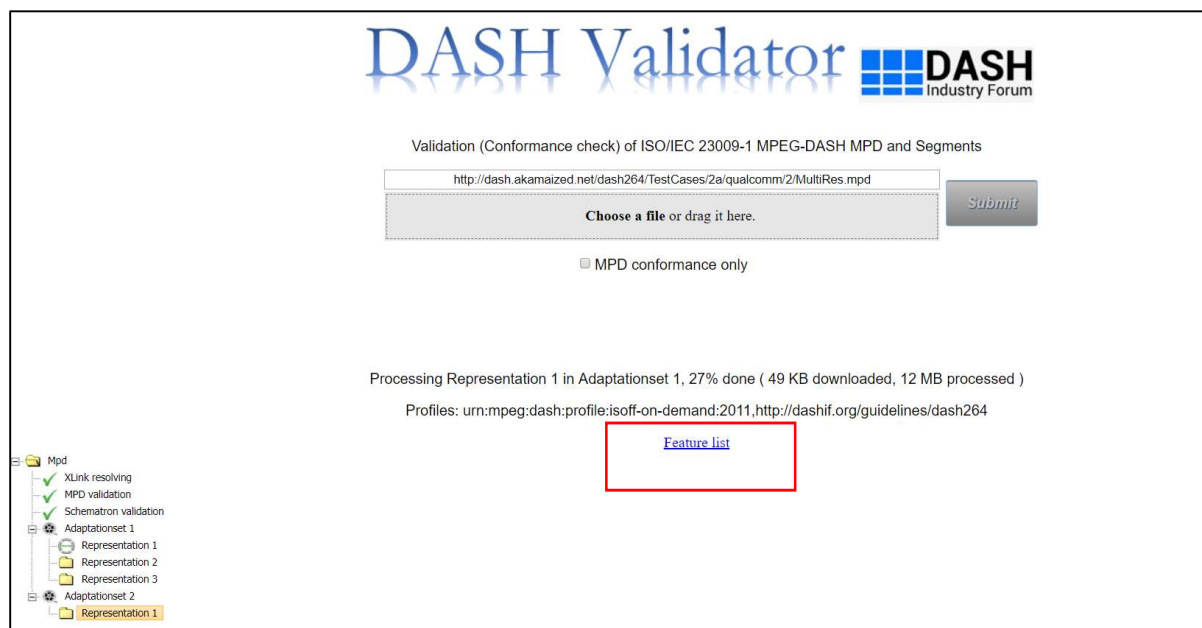
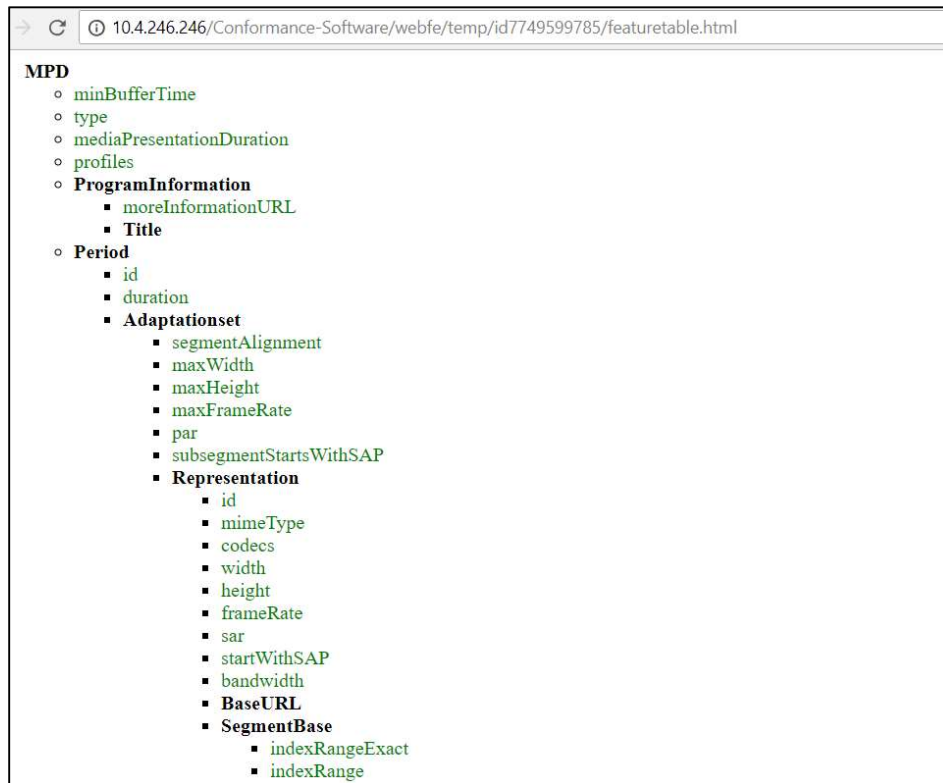

Figure 6 MPD Feature list option
Figure 7 A look of Feature list
4. To view the list of features, i.e., all the elements and attributes present in the given MPD, click on the link 'Feature list' shown in Figure 6. When clicked on, a new tab opens with the feature list, depicted in Figure 7.